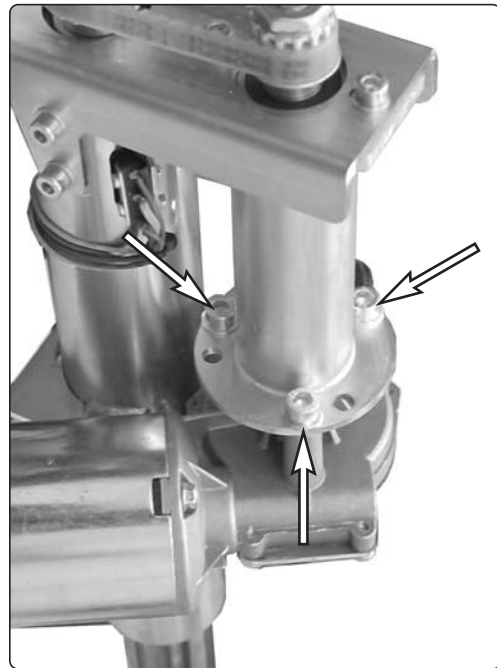

Fig.39. The motor is attached by three bolts.
3. Remove the seat lift motor by taking out the three bolts that hold it, see fig. 39.